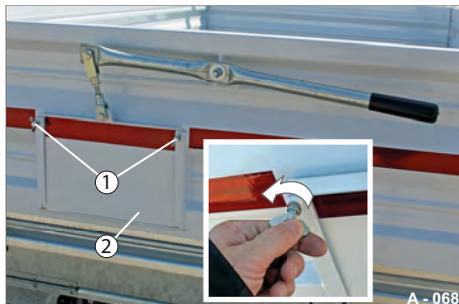

Fig. 90 Unlocking dosing slider
- ▶ Unscrew both wing bolts (Fig. 90/1) - but not completely.